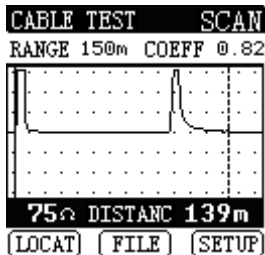

Figure 2-7
3. Presses Shift key to switch function key, makes F1 soft key showing [LOCAT] (As show in Figure 2-7). Presses [LOCAT] key, system will locate the mark to the failure points automatically, system will stop scanning at this moment.